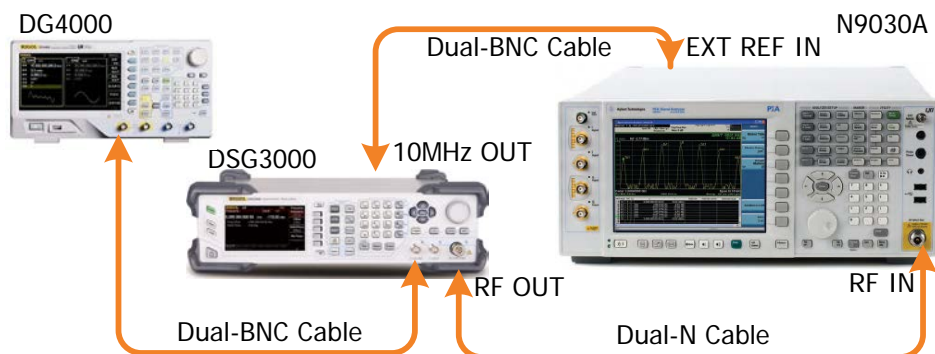

Figure 2-10 ØM External Modulation Test Connection Diagram
1. Synchronize the DSG3000 and signal analyzer. Connect the RF output terminal of the DSG3000 with the RF input terminal of the signal analyzer. Connect the signal output terminal (e.g. CH1 output) of the function/arbitrary waveform generator with the external modulation input terminal of the DSG3000 as shown in Figure 2-10.